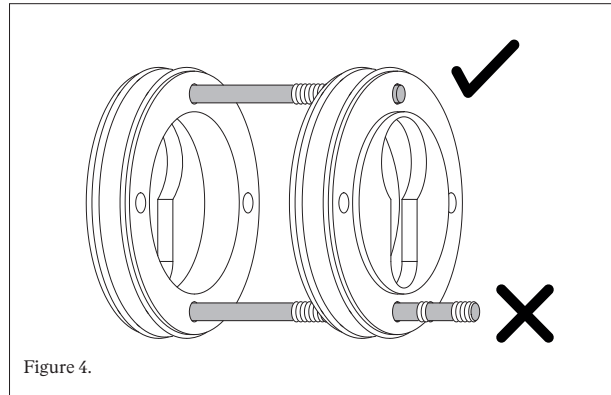

Figure 4.
- 3.3 Ensure to cut so that the bolt does not protrude from the opposite rose once installed. Figure 4.